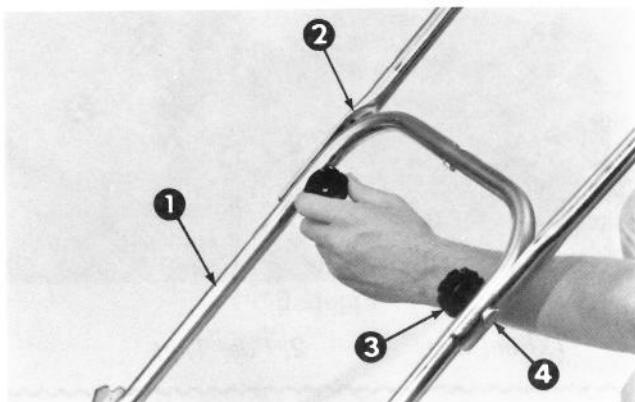

Figure 2
2. Slide upper handle over lower handle and align holes. Secure both sides with handle screws and knobs being sure the knobs are on the inside (Fig. 2).